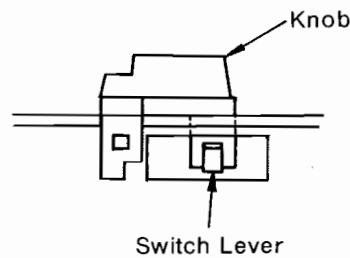

Fig. 11
- ※ 1. Insert the catch of knob in the switch lever, as shown in Fig. 11.